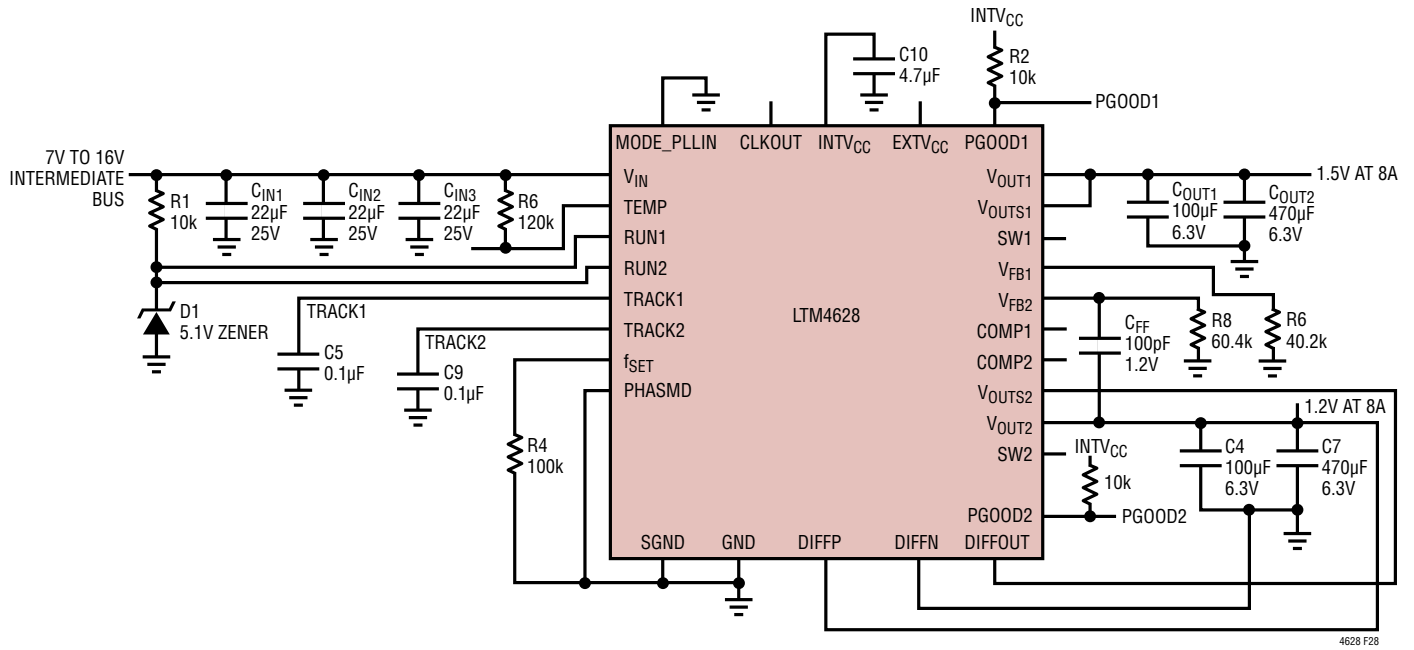

Figure 28. 7VIN to 16VIN, 1.5V and 1.2V Outputs
**Table 4 Output Voltage Response vs Component Matrix (Refer to Figure 28) 0A to 4A Load Step Typical Measured Values**